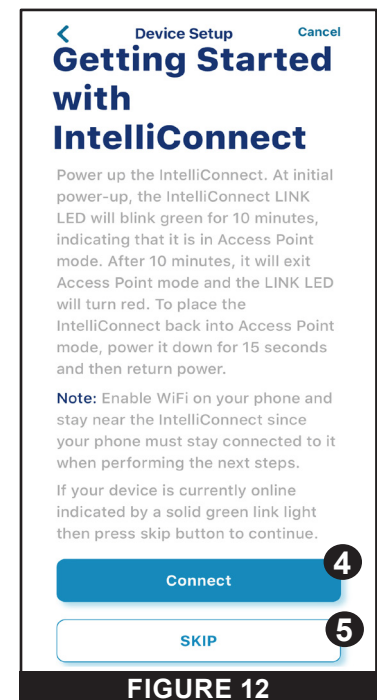

FIGURE 12
- At the Getting Started with IntelliConnect screen (FIGURE 12):
- If IntelliConnect has not been paired to a WiFi network, complete the on-screen instructions then press CONNECT (4).
- If IntelliConnect has already been paired to a WiFi network, press SKIP (5).